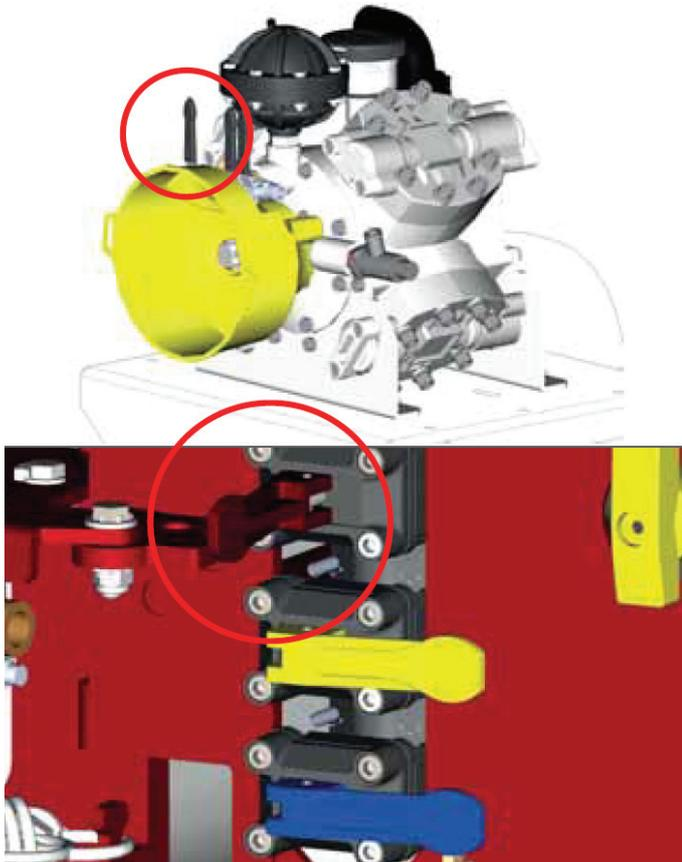

Figure 38
3. The valve on the pump to the mixer and the mixer valve on the control panel connected to it are opened. **(Figure : 38)**